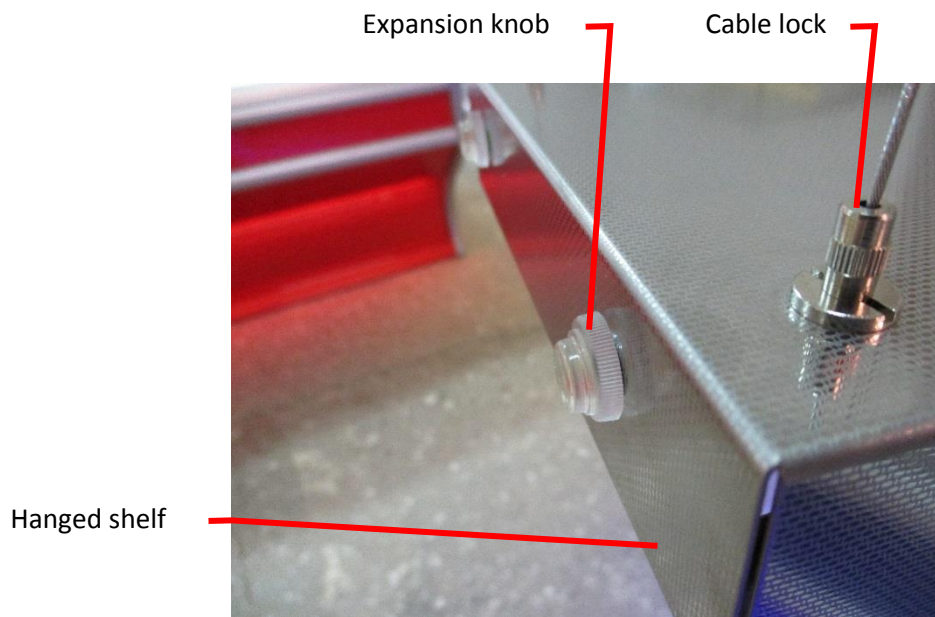

Figure 1.
- 1) Before putting the shelf to the flower refrigerator screw expansion knobs towards the inside of the shelf; it might be already screwed (*Figure 1.*).